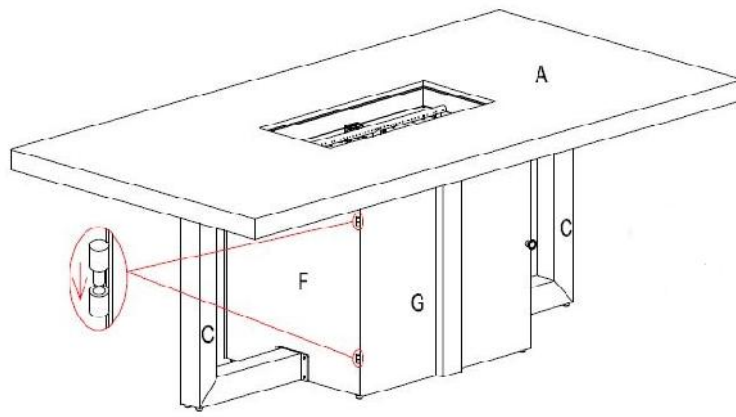

Figure 7
7. Attach the Door (D) to the fire table, see Figure 7. Then tighten all the screws completely.